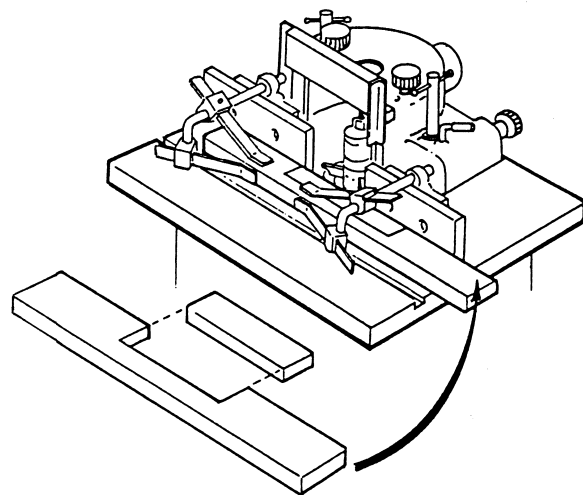

Figure 27
When edge shaping, never attempt to hand guide any stock less than 12 inches long, or narrower than 3 inches without the use of a special guide as shown in Figure 27.
1. Use the hold-ins and hold-downs as shown in Figure 27 to firmly hold the workpiece down and against the fence. If workpiece is too wide for the hold-ins to be used, clamp a scrap board to the table to substitute for the hold-ins.